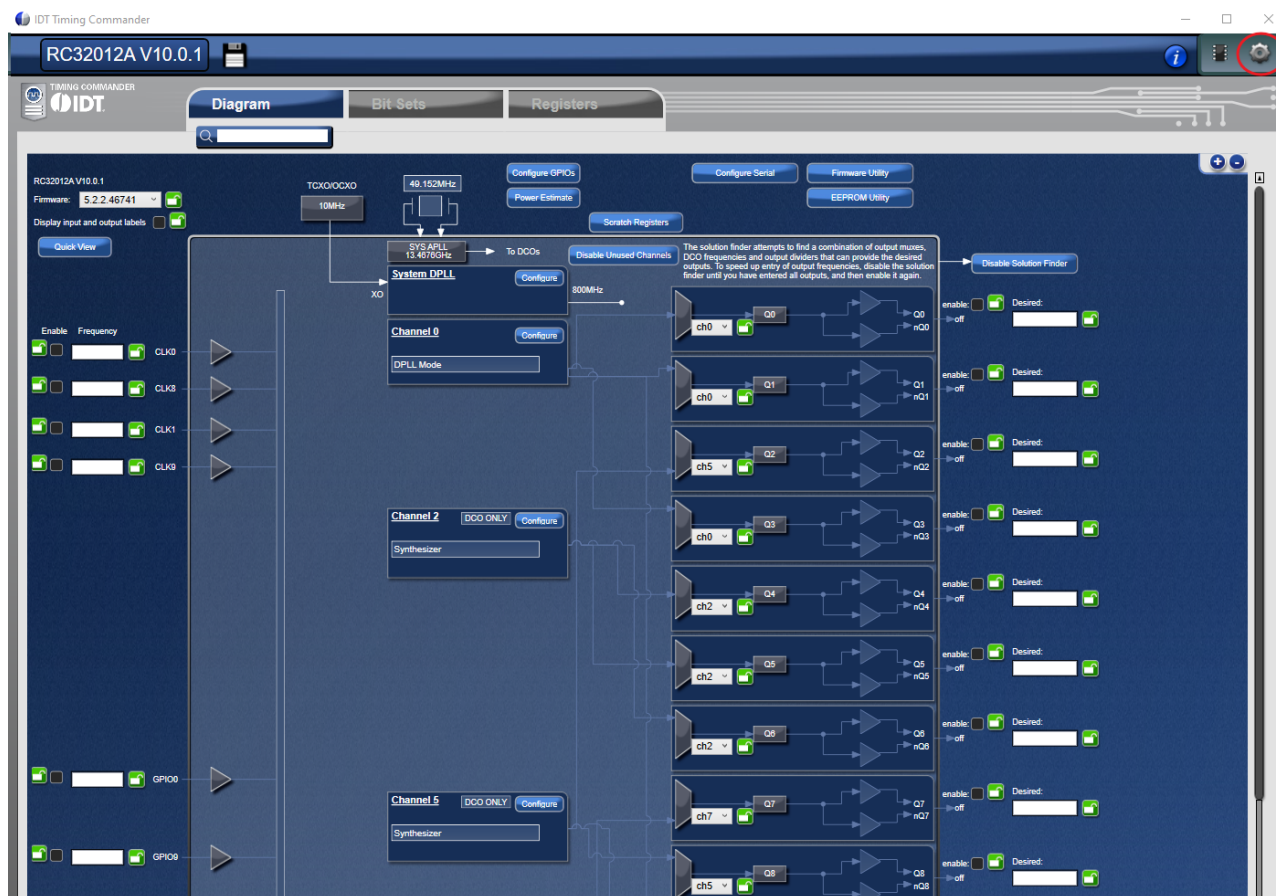
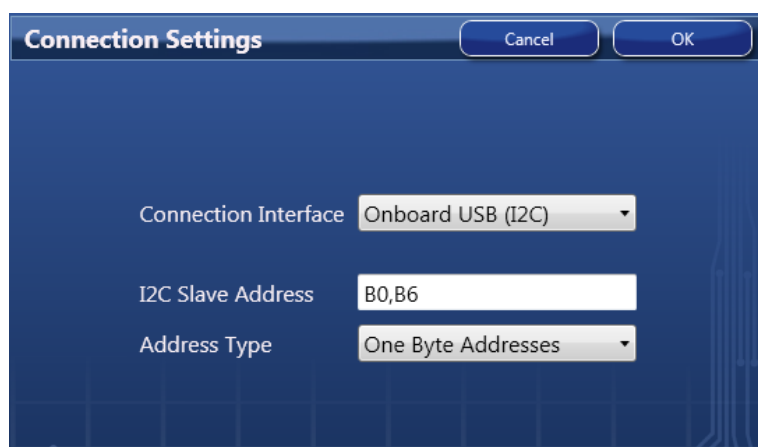

Figure 9. Timing Commander GUI with a Settings File Opened
Figure 10. Setting I2C for Connecting the Board with GUI
By using FTDI dongle, we can connect to a customer board and use the Timing Commander GUI just like working on a ClockMatrix evaluation board. When using the FTDI dongle to connect to a customer board, in Timing Commander "Connection Settings" window, "On-board USB (SPI)" is selected in Connection Interface box (see Figure 10), same as connecting to a Renesas evaluation board.
4. The GUI window with the RC32012A block diagram will open for configurations; or if “Open Settings File” is selected in Step 5 above, you will be prompted to browse and select an existing .tcs file and the personality file. When the configuration file is open, all configured values will be displayed as in Figure 9.
5. In order to connect the board with Timing Commander (PC), click the button (red circle) at the up-right corner of the GUI to set up the communication protocols (see Figure 9). After I2C and one-byte addressing are selected, click OK to close the window (see Figure 10).